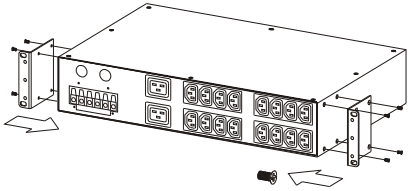

Figure 1 & 2
4. Affix the backplate (Figure 1) onto the ATS (Figure 2). Affix the ATS onto the frame of the chassis (Figure 3).